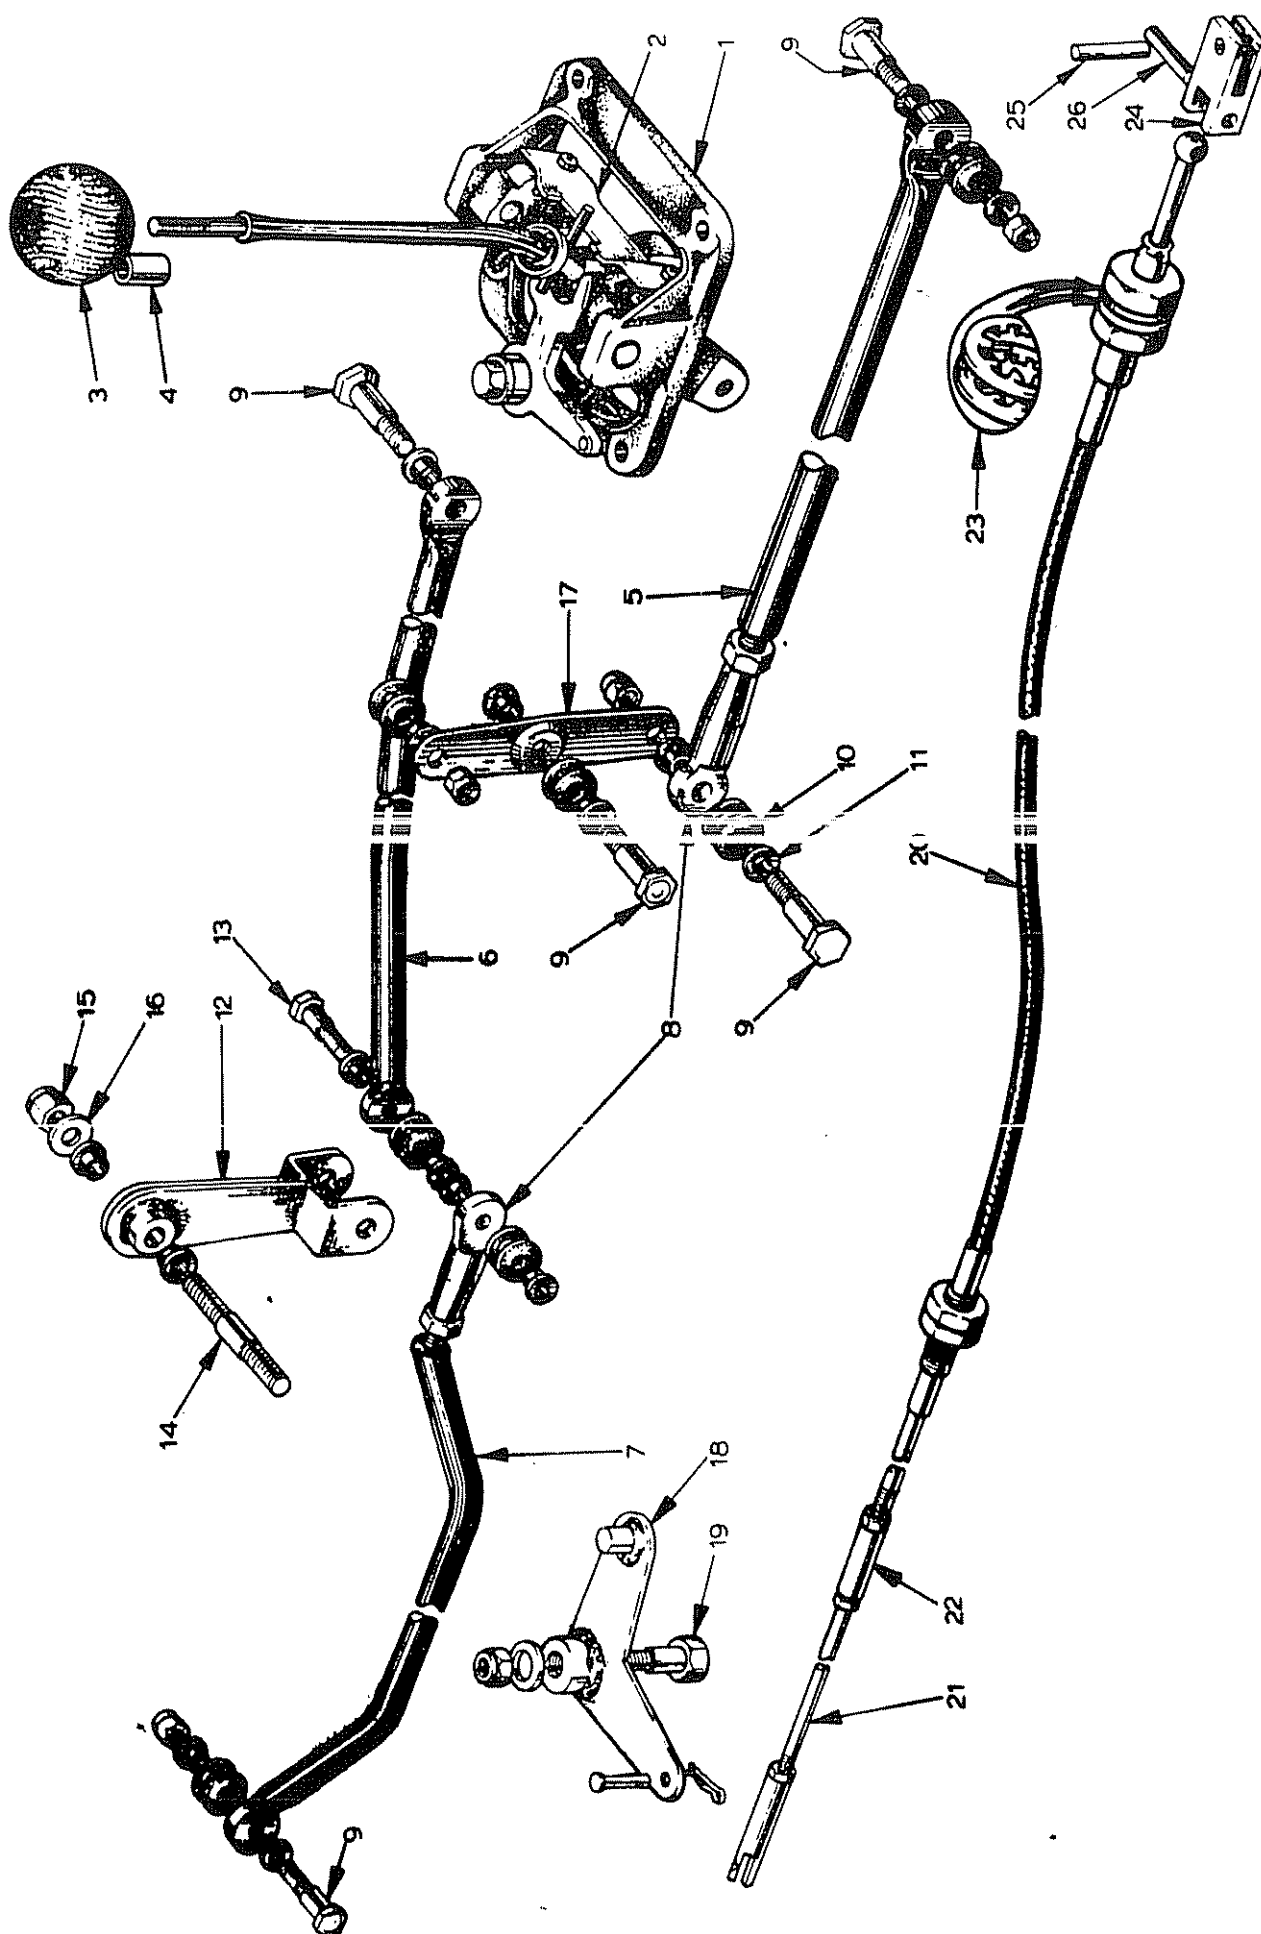

Fig. 2 - Gear Change Mechanism
When the **gearshift** lever is in an out of gear position the **gearshift** lever **will** take up a neutral centre position **in** the gate, held there by springs on the gearbox **cross-shaft**. The left-hand lever on the cross-shaft is coupled to the **gearshift** through a **series** of tubes and levers running through the centre chassis member and along the **left-hand** side **of the** engine (see fig.2).
A bowden cable is connected from a lever arm on the gear shift assembly to an **actuator** arm on the gearbox casting (see fig.2).
6. Remove bolt (item 13, fig.2) on the left-hand side of the engine and the bolt (item 9, fig.2) in the **rear** of the **chassis** box member. Withdraw the forward tube, lever arm and the intermediate tube as an assembly. Further dismantling can be carried out on the bench.
KEY TO FIG.2